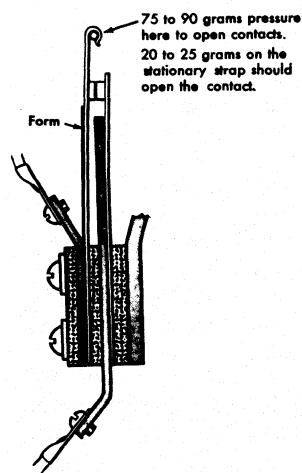

Figure 117. Sensing Contact Adjustment
3. With plastic contact operators removed, form movable contact straps so that pressure of 75 grams to 90 grams is required to break movable contact from stationary contact (Figure 117). Pressure of 20 grams to 25